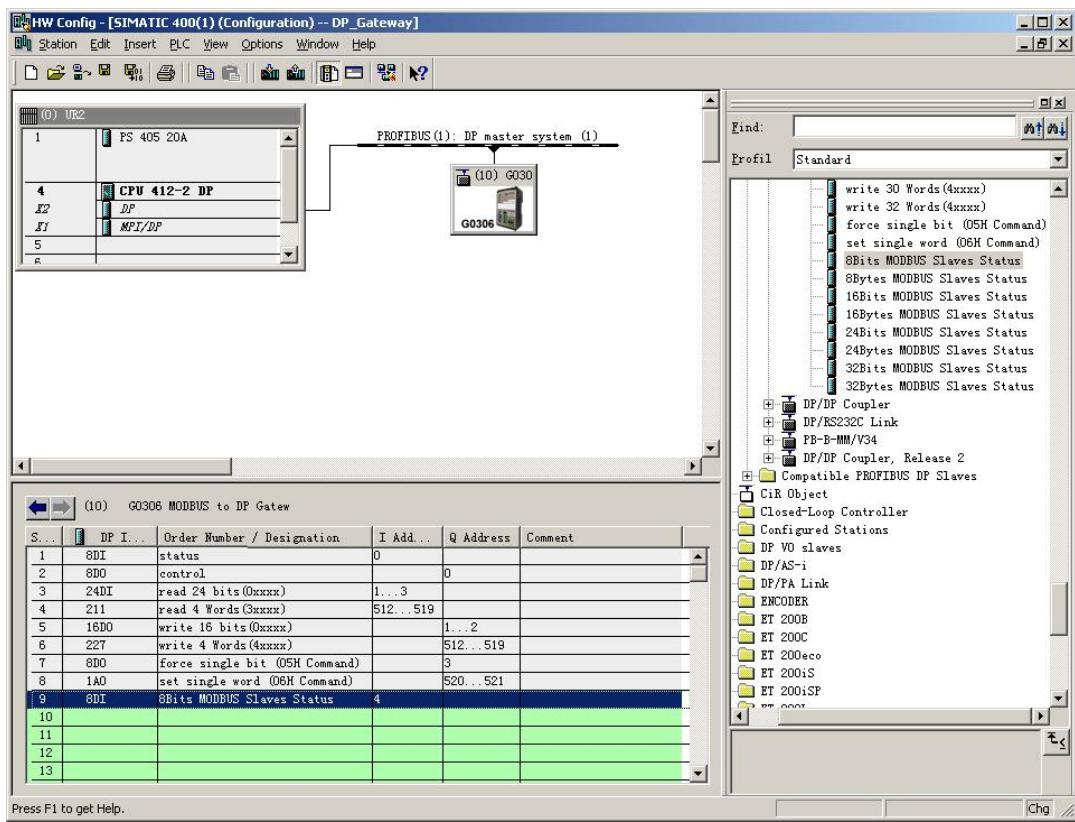

Figure 35 Add “8Bits MODBUS Slaves Status” Module
- Add “8Bits MODBUS Slaves Status” Module, shown in Figure 35:**